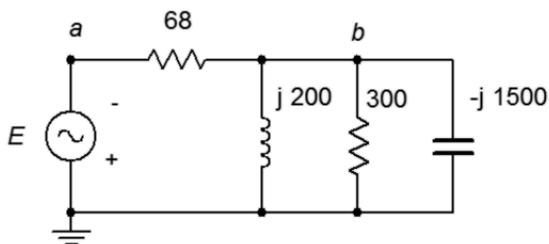

Figure 5.25
51. For the circuit of Figure 5.25, determine the Thévenin and Norton equivalents that drive the combo of  $300 \text{ }\Omega$  in parallel with  $-j1500 \text{ }\Omega$ . Does this combo achieve maximum load power? If not, what combo will achieve maximum power and what is the resulting power?  $E = 120\angle 0^\circ$ .